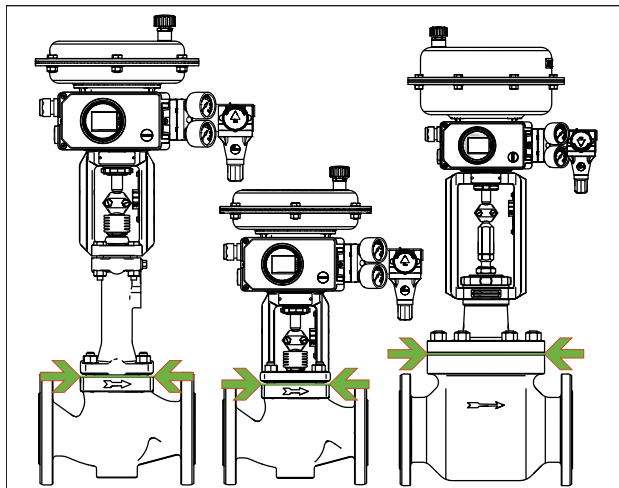

Fig. 9: Limit of insulation for control valves (example shown)
- ⇒ Only insulate control valves up to the bonnet flange of the valve body (see Fig. 9). This also applies to versions with bellows seal or insulating section at medium temperatures below 0 °C (32 °F) or above 220 °C (428 °F). If the insulating section is insulated, it will not function properly.